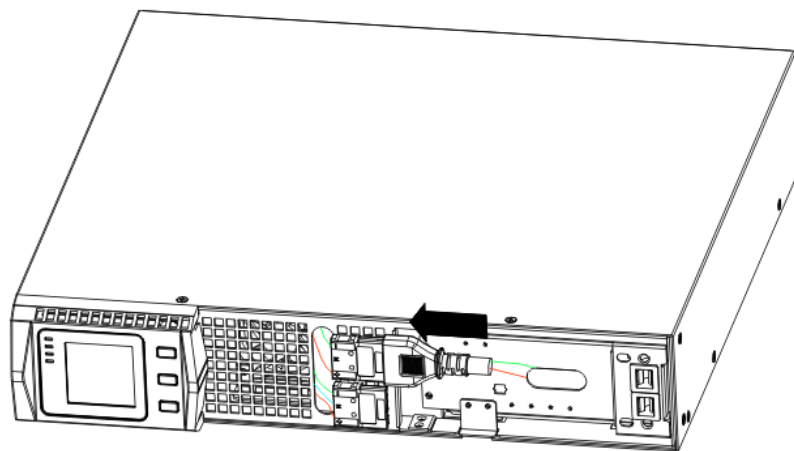

FIG.8 Connecting the UPS Internal Batteries
Hold the cover part without LCD on the right side and extract it (see Fig.8)
2. Connect the internal battery connector (see FIG. 8)